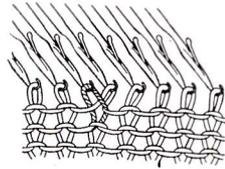

Fig. 56
- 3) At last, hang the neighboring below stitch to the empty needle. (See Fig. 56)